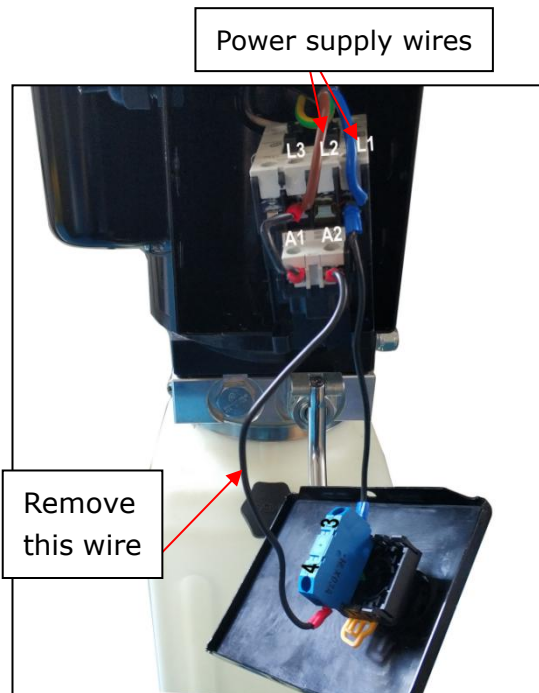
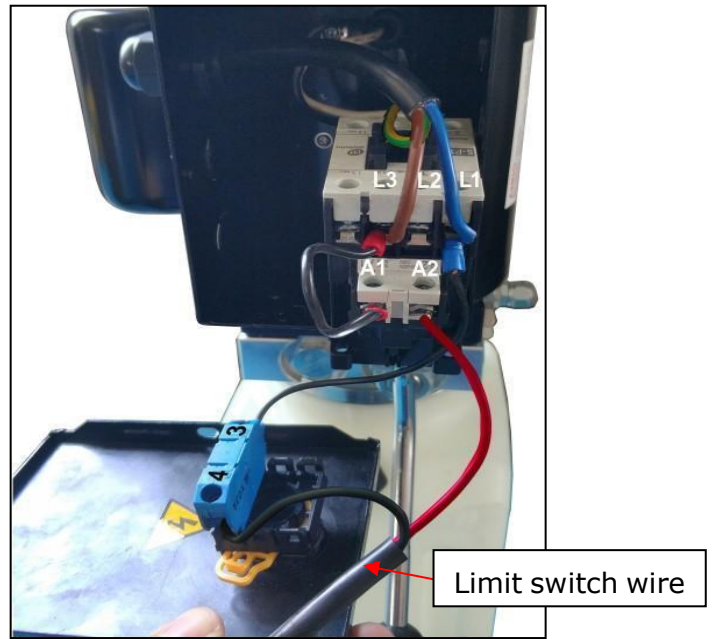

Fig. 40
Fig.41
2. Connecting limit switch wire: remove the short wire connecting terminal 4# of control button and A2 of AC contactor firstly (See Fig.40), then according to the wire number of the limit switch, connect them respectively to terminal 4# of control button and A2# of AC contactor. (See Fig. 41)